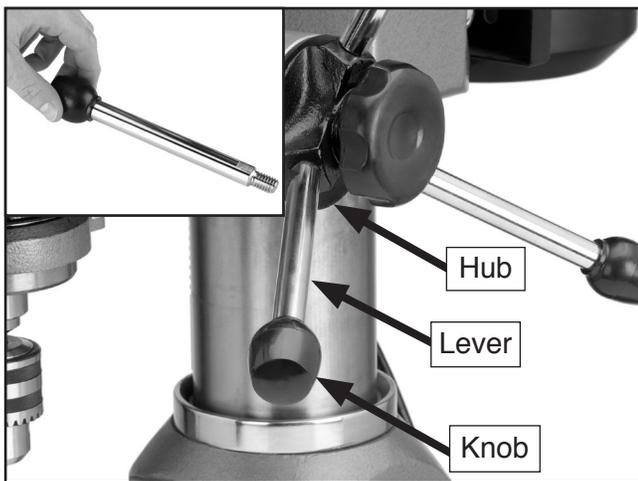

Figure 19. Feed levers.
2. Screw the levers with knobs into the threaded holes on the hub, located on the right side of the machine (**Figure 19**).